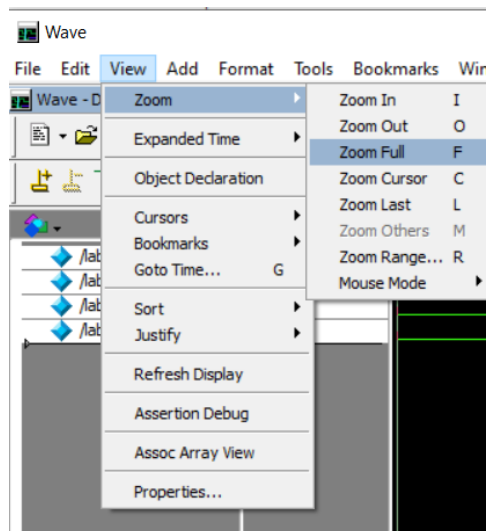
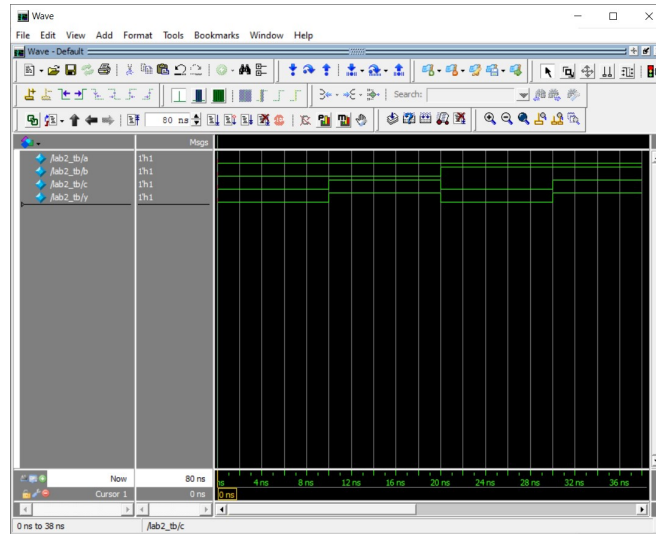

Fig. 3.13: Zoom to view entire waveform.
Fig. 3.14: Output wave-forms of the logic circuit.
12. Click on *Run*. The simulation waveform will appear on the screen. Go to the *View* tab, click *Zoom* and select *Zoom Full* (Fig. 3.13) (or you can press *F* key on your keyboard), to view the output of *y* for all the various inputs (Fig. 3.14). You can press *H* key to just see the names of the signals without the module name.